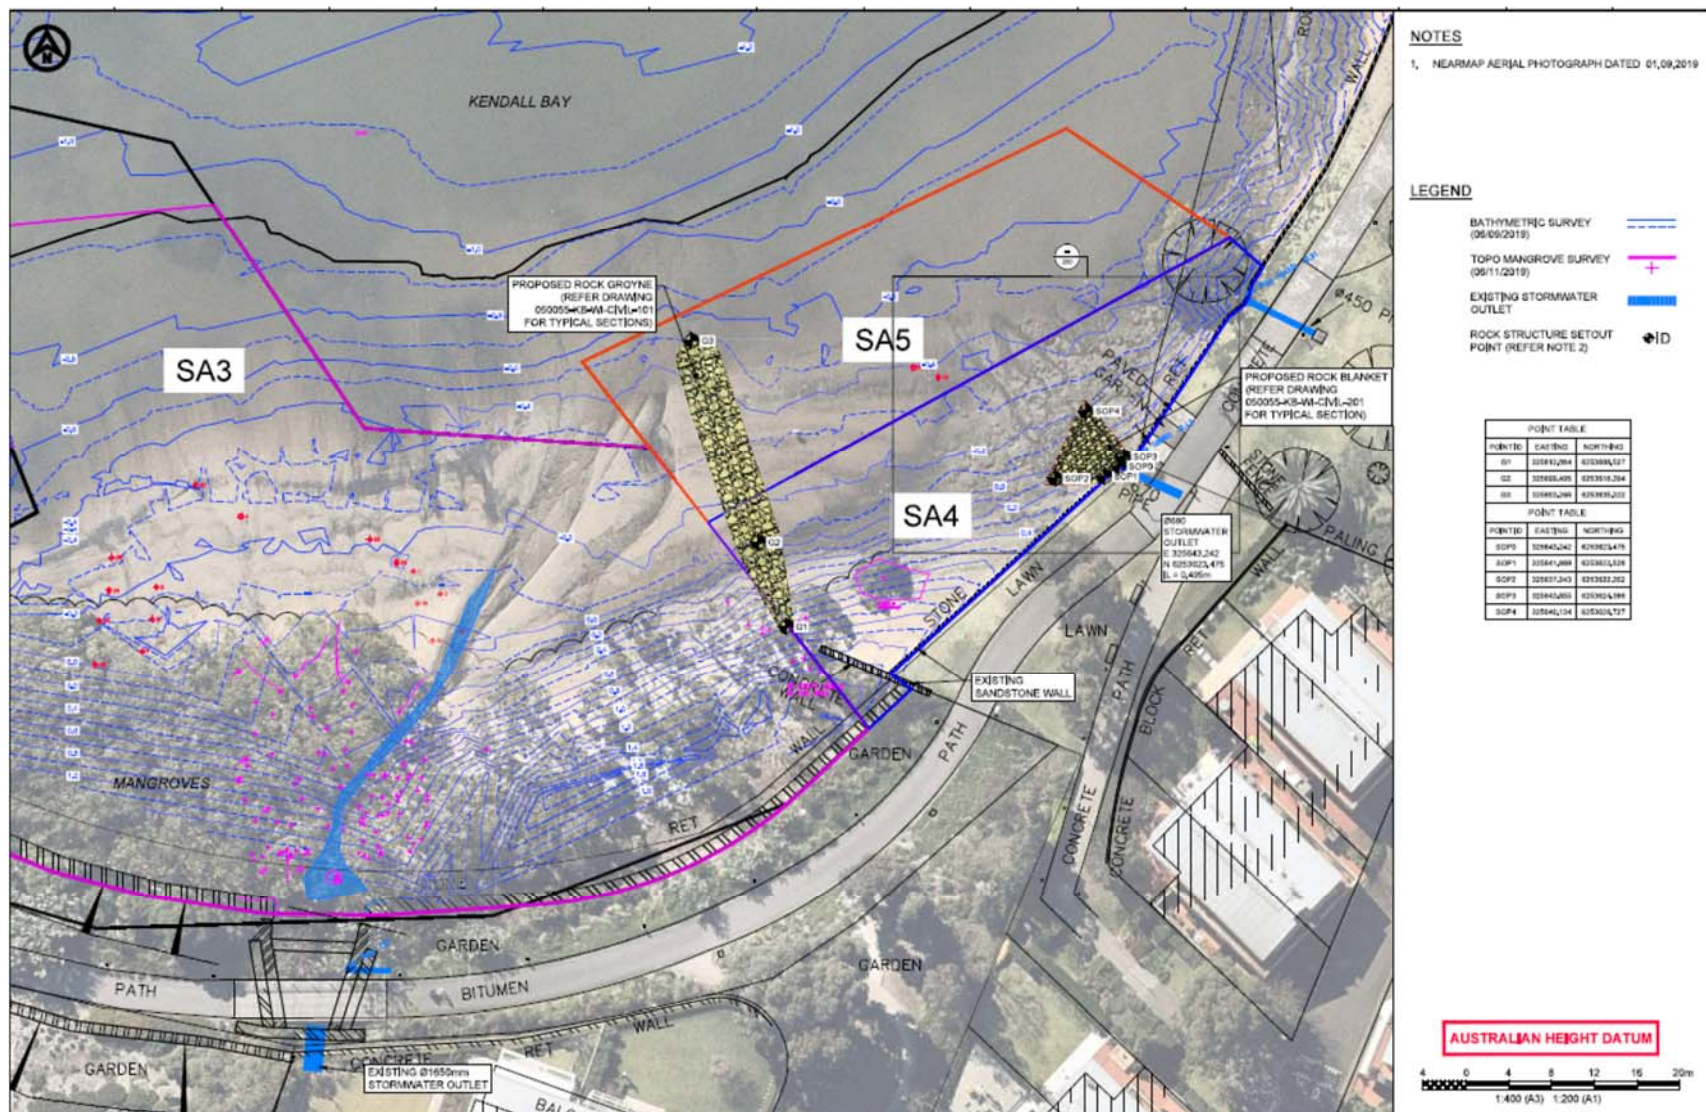

Figure 4: Southern Area Stormwater Controls – Rock Groyne and Rock Blanket
8. Delete Figure 4 in Appendix 1 and replace with the following Figure 4